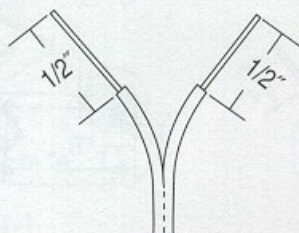

Figure 4-1
- **REMOVE 1/2"** of insulation from the transformer end of the wire. (Figure 4-1)